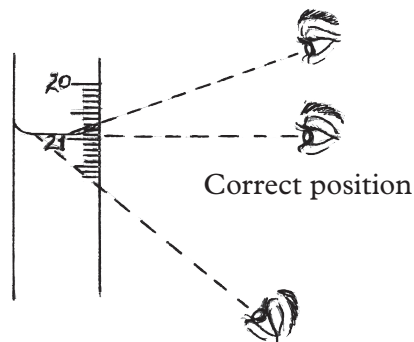

Fig. 7.4: Correct way of reading below the meniscus
- Note that when the solution falls below the mark, you have to re-fill all over again. This wastes time. To avoid this hold the pipette upright and read below the meniscus. See Fig. 7.4.